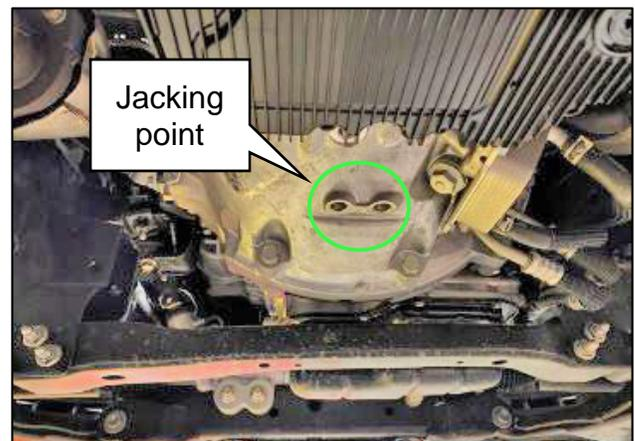

Figure 8
- If it is necessary to support the Transmission Assembly during this procedure, use a suitable jack and a block of wood at the jacking point shown in Figure 8.